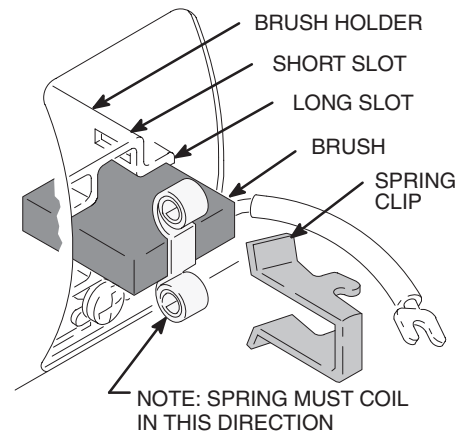

Fig. 11 01227
6. Install new brush so lead is in long slot of holder. See Fig. 11.
8. Place spring on brush as shown in Fig. 11.
9. Install spring clip and push it down to hook short slots in housing. See Fig. 11.